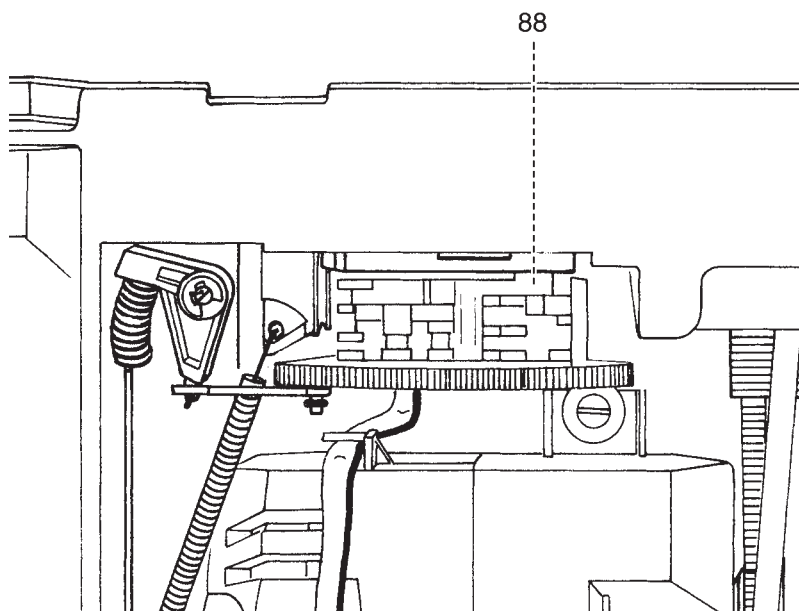

Fig. 37
- Prevent the stack of cams 88 from rotating by holding it from the front (fig. 37).